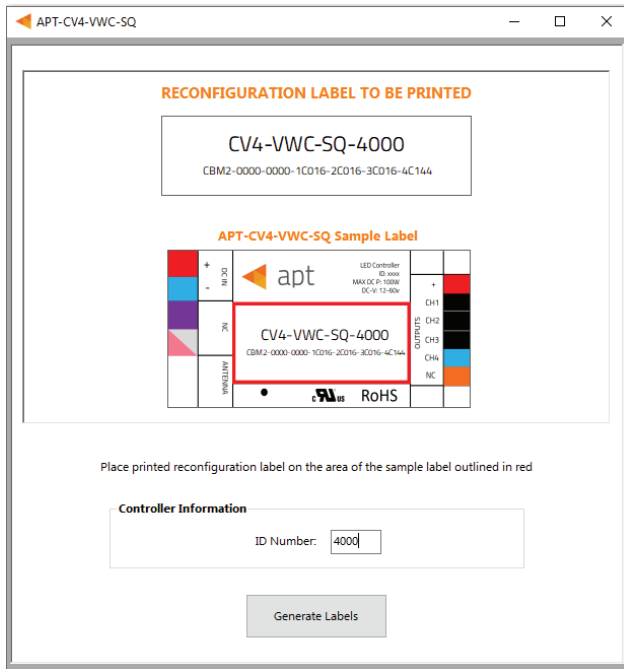

Figure 13: Label Generation window
- 1 Select **File > Generate Label** or press **Ctrl +L** to open the Label Generation window (shown in Figure 13).